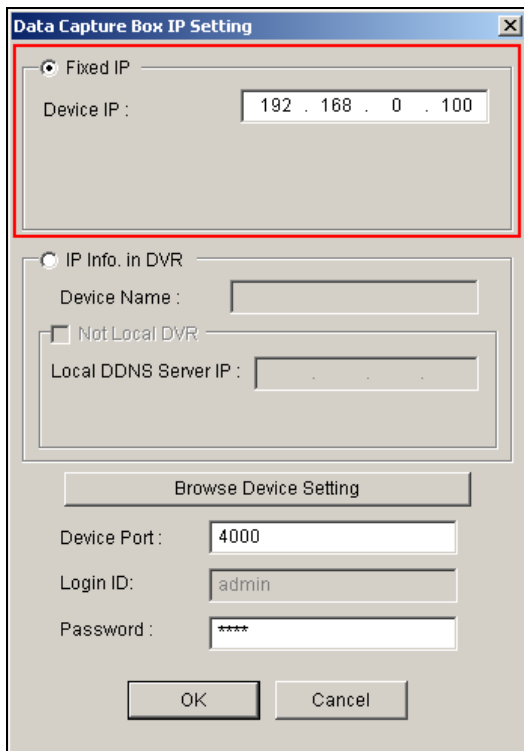

Figure 9
- **Device Port:** Keeps default value **4000**. Or modify it to match that of GV-System. See Figure 9.